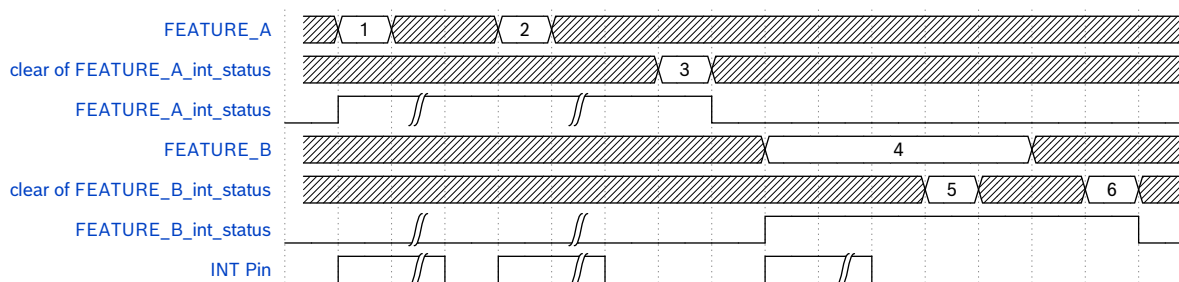

Figure 18: Interrupt output in pulses mode
**Pulses Mode** Figure 18 shows the timing diagram when the pulses mode is configured. FEATURE\_A and FEATURE\_B can represent any interrupt source, and are mapped to the same INT pin target. Detailed explanations of the timing diagram are provided in below: